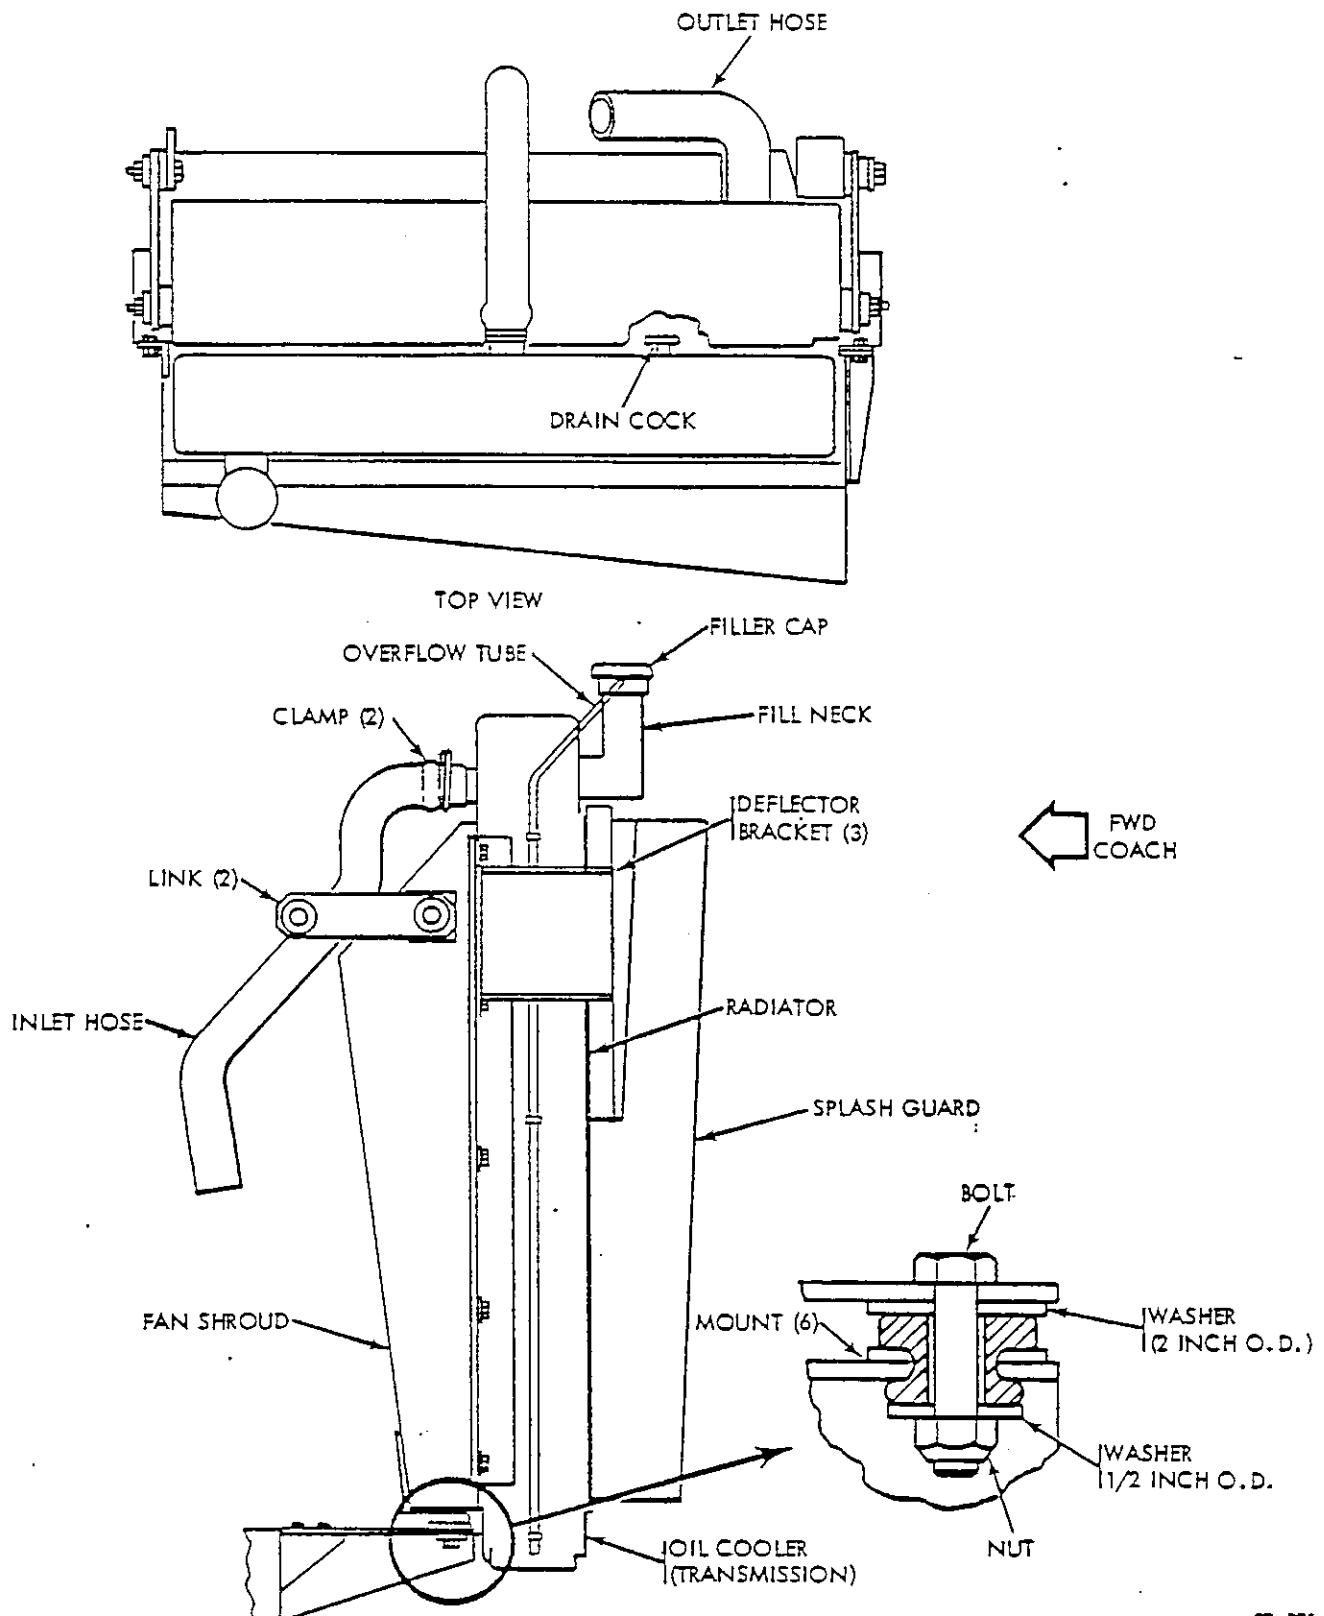

Figure 13-2. Radiator and Transmission Oil Cooler Assembly
c. Radiator and Transmission Oil Cooler Assembly (fig. 13-2). The radiator and transmission oil cooler assembly incorporates integral top and bottom tanks. The top tank contains a coolant inlet tube and a filler neck with a pressure cap. The coolant inlet tube is connected to the top fitting of the engine water pump by a hose. An overflow hose connects to the upper cap area in the filler neck. The lower tank incorporates a coolant outlet tube which connects the base of the radiator to the lower fitting of the engine block water jacket. The six-plate transmission oil cooler fits into the base of the radiator bottom tank. The radiator coolant keeps the transmission oil temperatures below 225 degrees F during normal operations. Inlet and outlet hoses route the transmission oil from the transmission to the cooler and return.
#### b. Radiator Hose Removal (fig. 13-2).
#### c. Radiator Hose Installation (fig. 13-2).
(1) Install new matched set of belts over fan blades, then seat in grooves of crankshaft and fan pulleys.
(2) Extend idler arm to seat belts in pulley grooves.
(3) Insert a 1/2-inch socket drive in square hole of idler arm, then press idler arm toward engine center to tighten belts to 100 foot-pounds tension. Torque lock-bolt idler arm slotted hole to 100 foot-pounds.
(4) Tighten pivot bolt.
h. Radiator and Transmission Oil Cooler Assembly Removal (fig. 13-2).
(1) Open rear and right engine access doors; then open radiator drain cock.
(2) Remove attaching bolts and nuts, then remove radiator grill; note position and number of removed shim washers.
(3) Remove two bolts and nuts then radiator skirt.
(4) Remove power steering reservoir; refer to Group 7.
(5) Remove coolant and transmission oil hoses from radiator according to paragraphs 13-3b and 13-3d.
(6) Remove second support-link mount from each side of deflector.
(7) Remove mount from bottom of each side of deflector.
(8) Move radiator outward and down, then twist it to clear opening in rear of vehicle; remove radiator.
(9) If shroud is to be removed, remove six screws, nuts, and washers from three support brackets, then remove shroud.
(10) If air deflector is to be removed, remove remaining eight cap screws, washers, and nuts along each side of radiator, then remove deflector.
(11) If radiator guard is to be removed, remove four screws from brackets, then remove guard.
i. Radiator and Transmission Oil Cooler Assembly Installation (fig. 13-2).
(1) If radiator guard was removed, install it with four screws in brackets.
(2) If air deflector was removed, install it with eight cap screws, washers, and nuts. Leave two top right holes open. Torque screws 25 to 27 foot-pounds.
(3) If shroud was removed, install it with six cap screws, washers, and nuts. Torque screws 73 to 78 INCH-pounds.
(4) Align radiator to pass through vehicle opening, move it in, down, and then up onto mounting points on coach frame.
(5) Install mount at each bottom hole with small washer, large washer, bolt, and nut. Add washers, as required, to obtain a fan clearance of 0.62 ( $\pm 0.12$ ) inch. Torque bolts 61 to 66 foot-pounds.
(6) At each side of radiator, secure link to vehicle structure with mount, small washer, large washer, bolt and nut. Torque bolts 61 to 66 foot-pounds.
(7) Install coolant and transmission oil hoses on radiator according to paragraphs 13-3c and 13-3e.
(8) Install and fill power steering reservoir; refer to Group 7.
(9) Service radiator; refer to paragraph 13-5j.
(10) Operate engine and correct any leaks; refer to paragraph 13-5f.